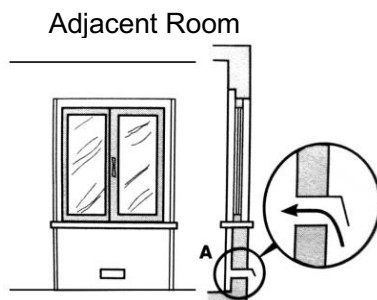
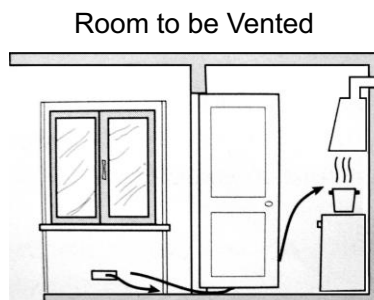

Fig. 3
Fig. 4
- b) The room must also allow for the influx of the air needed for proper combustion. The flow of air for combustion purposes must not be less than 2 m³/h per kW of installed capacity. The supply of said air can be effected by means of direct influx from the outside through a duct with a inner cross section of at least 100cm² which must not be able to be accidentally blocked. Those appliances which are not fitted with a safety device to prevent the flame from accidentally going out must have a ventilation opening twice the size otherwise required, i.e. a minimum of 200 cm² (Fig. 3). Otherwise, the room can be vented indirectly through adjacent rooms fitted with ventilation ducts to the outside as described above, as long as the adjacent rooms are not shared areas, bedrooms or present the risk of fire (Fig. 4).